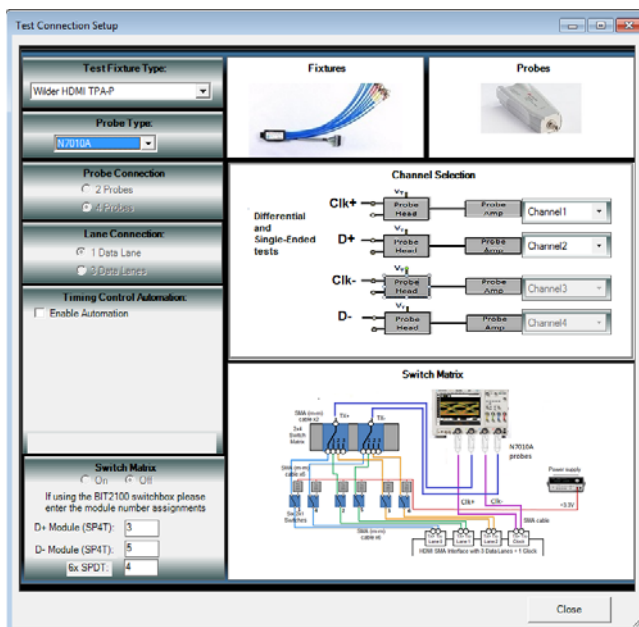

Figure 22 Test Connection Setup dialog box
- Select the Test Fixture Type (**Wilder HDMI TPA-P** in **Figure 22**) and the Probe Type (**N7010A**).